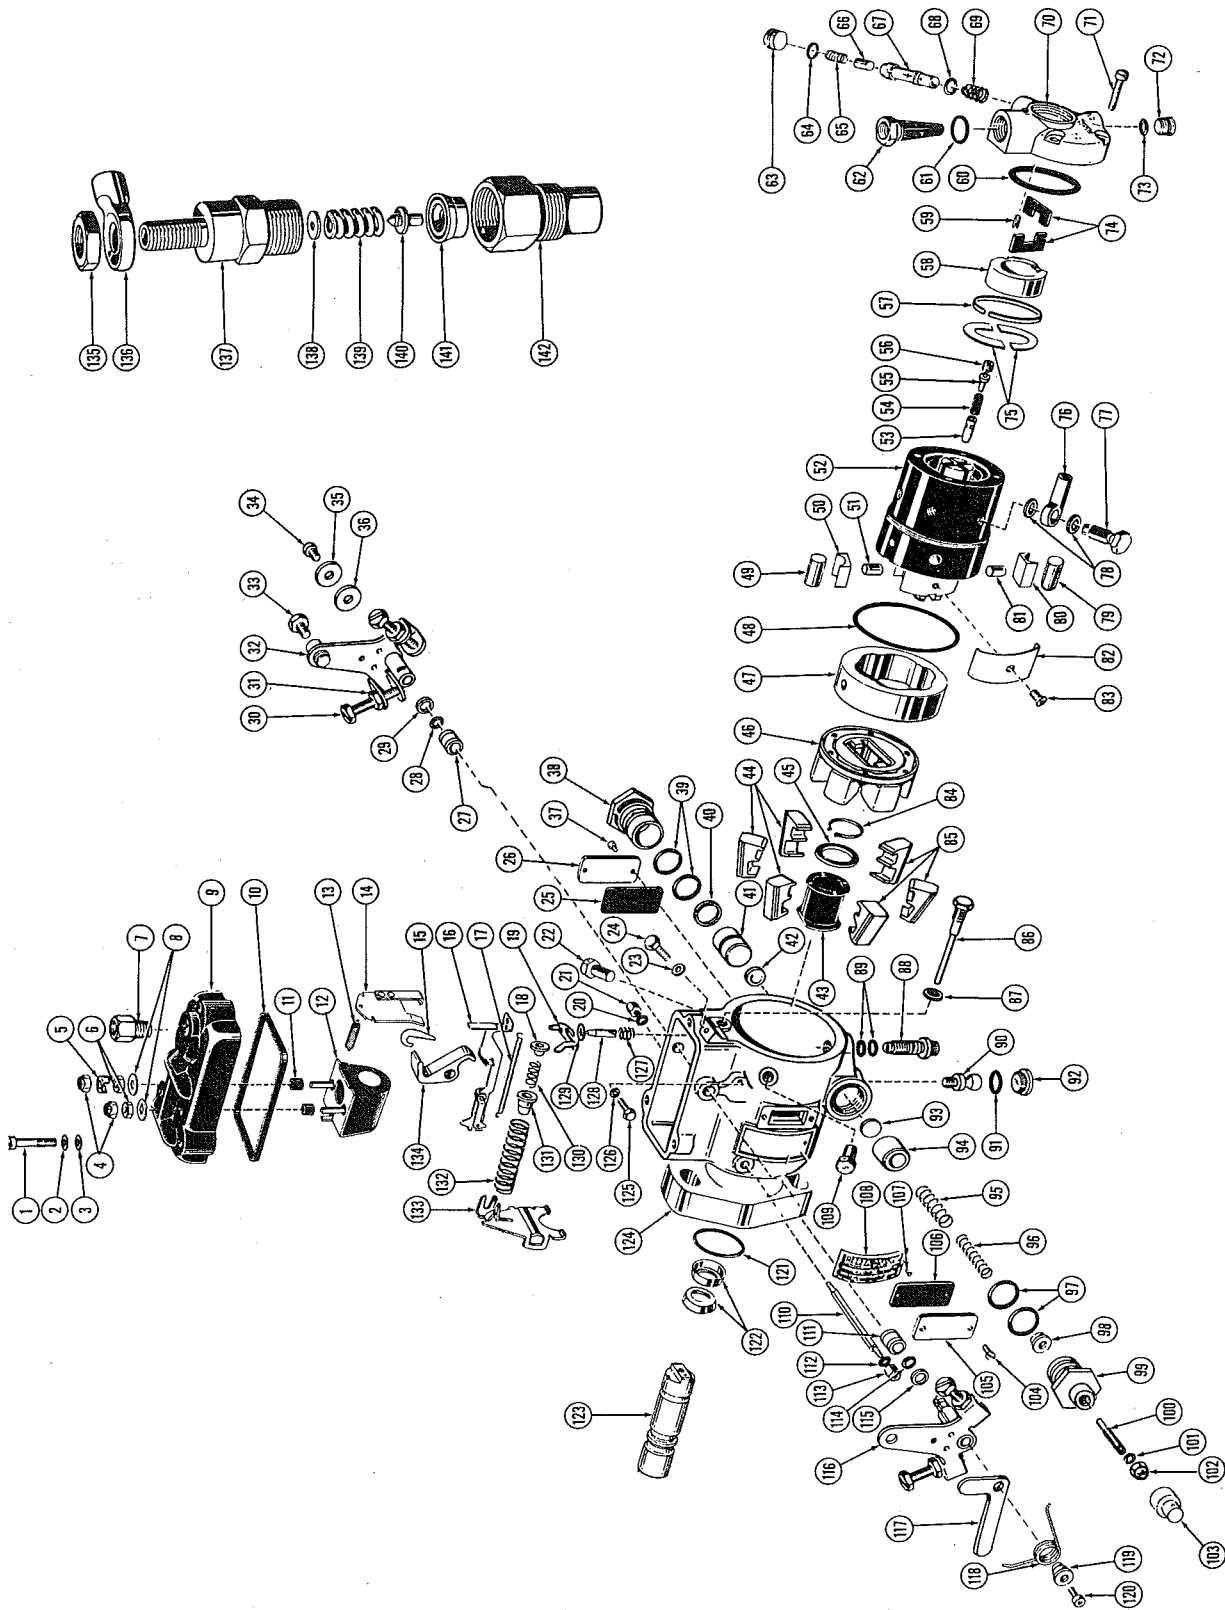

FIG. 55—INJECTION PUMP, EXPLODED VIEW
Numbers in parentheses refer to Fig. 55. Install the pump on a holding fixture (Roosa #13363). Hold the fixture in a vise.
LEGEND FOR FIG. 55—INJECTION PUMP, EXPLODED VIEW
n. Check the regulating piston of the end plate for freedom of movement in the sleeve. Check all threads in the end plate for damage and check the face of the end plate for excessive wear due to end thrust of the transfer pump rotor. Inspect the inlet screen of the cap and filter for damage; all dirt or rust must be removed from the assembly. Do not attempt to remove the liner locating roll pin (59, Fig. 55) unless obviously damaged. Inspect the sleeve for imbedded foreign material or rust. Inspect the regulating piston for wear, imbedded foreign material or rust, nicks, chipping, scratching, or scoring. Inspect the end plate plug and cap and filter for damaged threads.
Thoroughly flush all parts in clean oil as they are being reassembled. Cleanliness will contribute to long life and trouble-free operation. Replace all seals and gaskets, whether visibly damaged or not. Numbers in parentheses refer to Fig. 55.